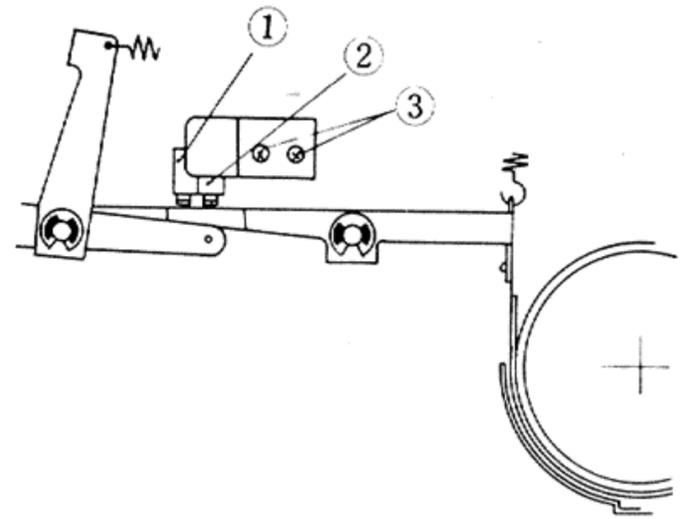
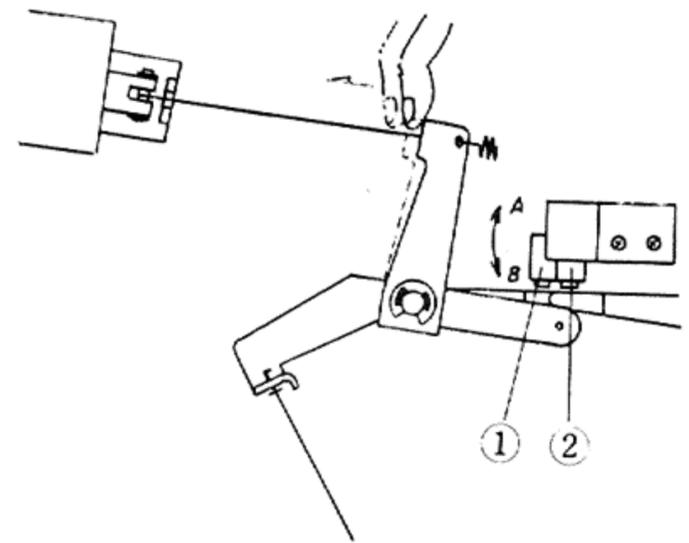
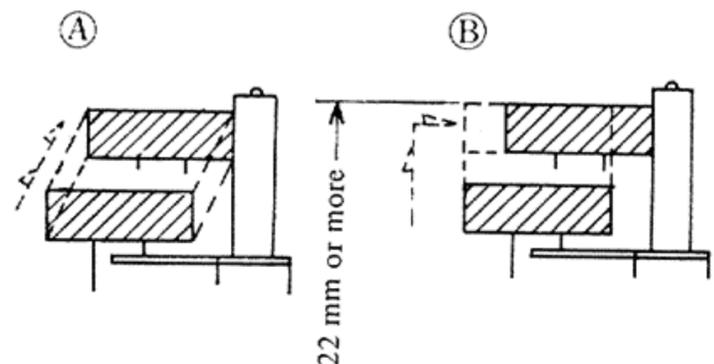

Fig. 14
Fig. 15
Fig. 16
1. Adjusting the switches (Fig. 14)
Fig. 14 shows the auxiliary circuit selector switch ① for back tension during fast winding and braking while stopped. Switch ② is for adjusting the timing of the pinch roller contact. The timing of switch ② is very important, as the tape may be damaged if adjustment is improper. Adjust as follows.
- (1) Set in the playback mode.
- (2) Loosen the screws ③ in Fig. 14, adjust switches ① and ② to ON and temporarily stop.
- (3) Set in the stop mode, then set in the playback mode to check the operation of the pinch roller.
- (4) Set in the stop mode. Then while pushing the brake lever with the fingers, set in the playback mode. Slowly releasing the finger pressure, check the pressure of the pinch roller. (Refer to Fig. 16) If the pinch roller rises as shown in (A) of Fig. 16, the operation of switch ② is too fast. Consequently, it is necessary to delay the timing so the switch ② operates just before the brake completely releases. Adjust by moving the switch ② in the direction of arrow A in Fig. 15. Adjust the pinch roller so it is 22mm or more above the mount plate just before contact.